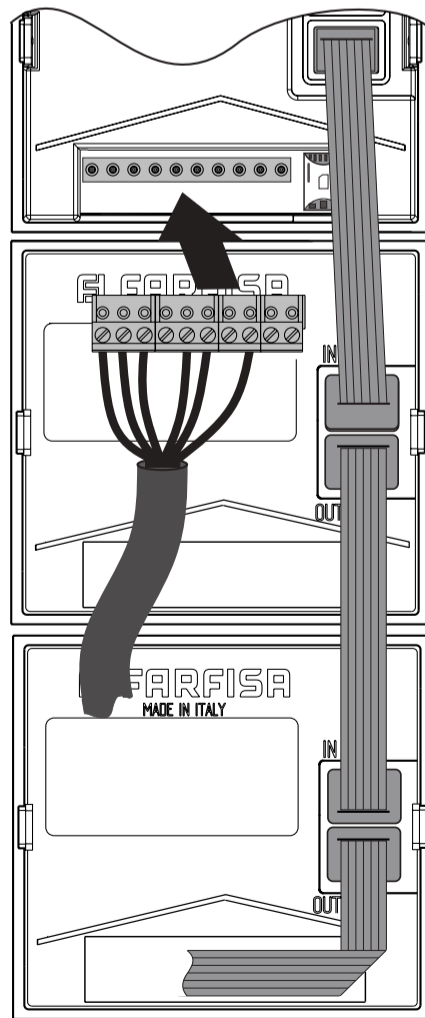
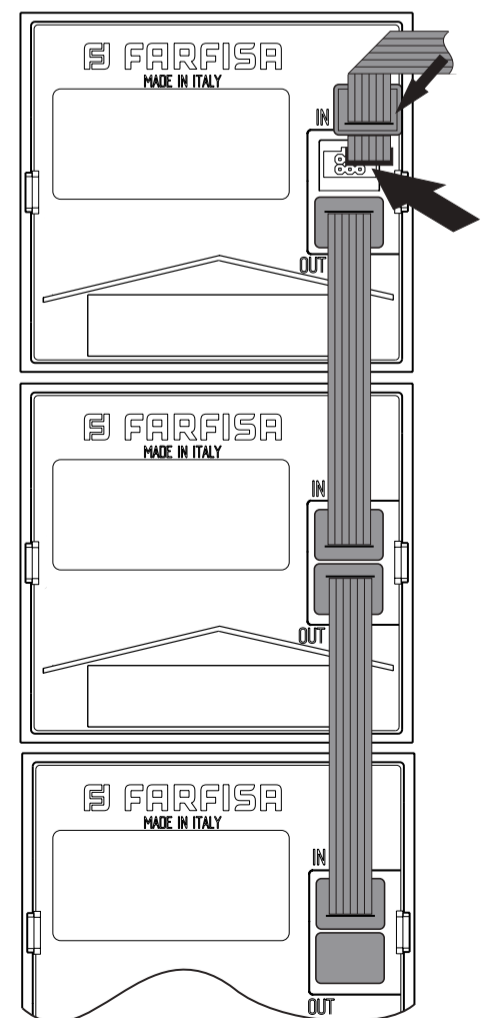

Fig. 5b
Fig. 5c
- Connect the terminal board to the AB3G module (Figure 5b). If you are assembling the second or third wall box, connect the long cable from the previous box to the first module (figure 5c).